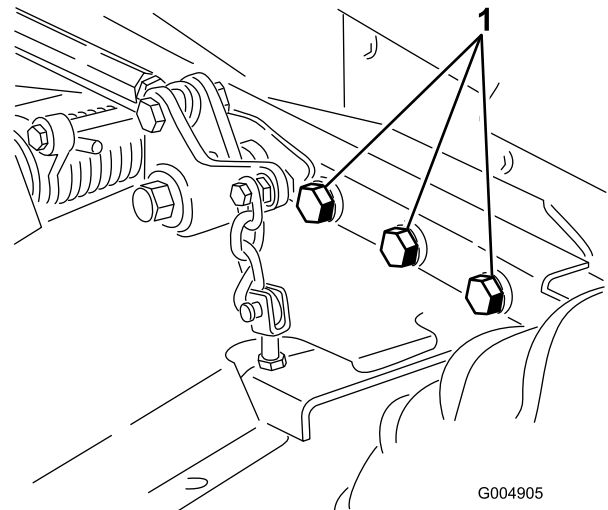

Figure 79
4. Check all fasteners for looseness and tighten them as necessary. Especially torque the 6 bolts securing the mower deck frame to the traction unit (Figure 79) to 359 N-m (265 ft-lb).